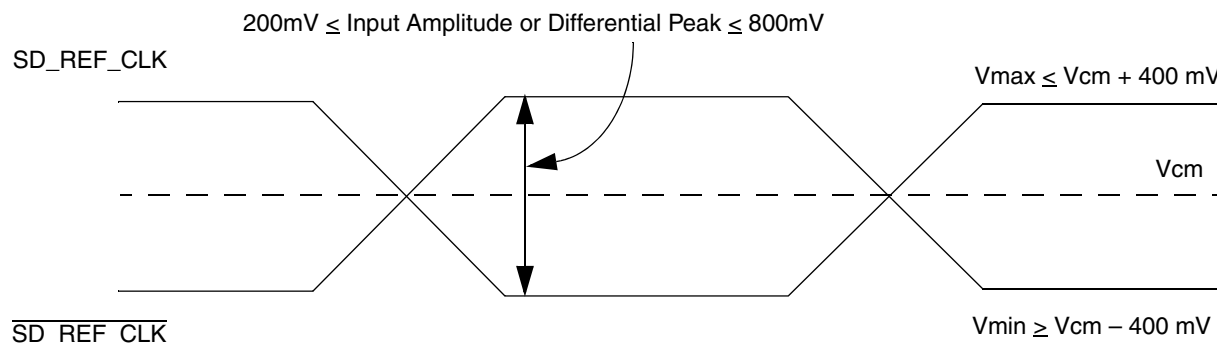

**Figure 18. Differential Reference Clock Input DC Requirements (External AC-Coupled)**
- For **external AC-coupled** connection, there is no common mode voltage requirement for the clock driver. Since the external AC-coupling capacitor blocks the DC level, the clock driver and the SerDes reference clock receiver operate in different command mode voltages. The SerDes reference clock receiver in this connection scheme has its common mode voltage set to XCOREVSS. Each signal wire of the differential inputs is allowed to swing below and above the common mode voltage (XCOREVSS). Figure 18 shows the SerDes reference clock input requirement for AC-coupled connection scheme.